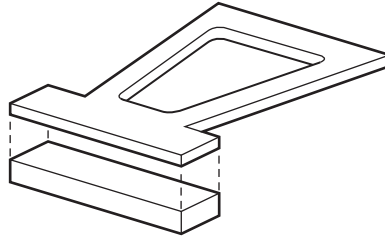

Fig. 1
- 2 Fig. 1 shows two parts of a brass marking out template.